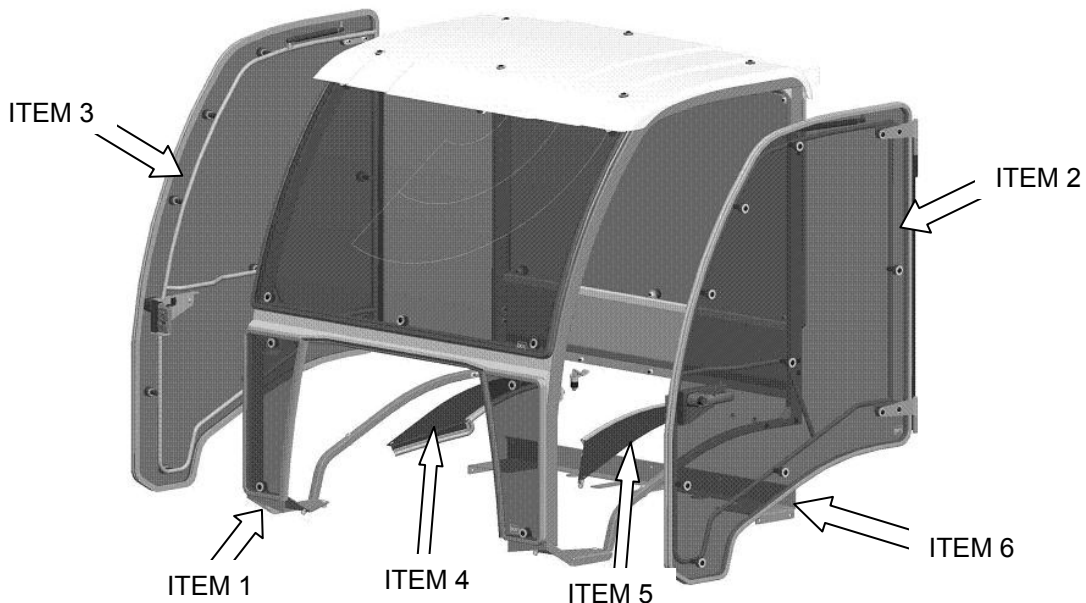

Figure 1
3. Remove crating from cab and open mounting kit box. Layout parts for identification. See Figures 1 and 2.